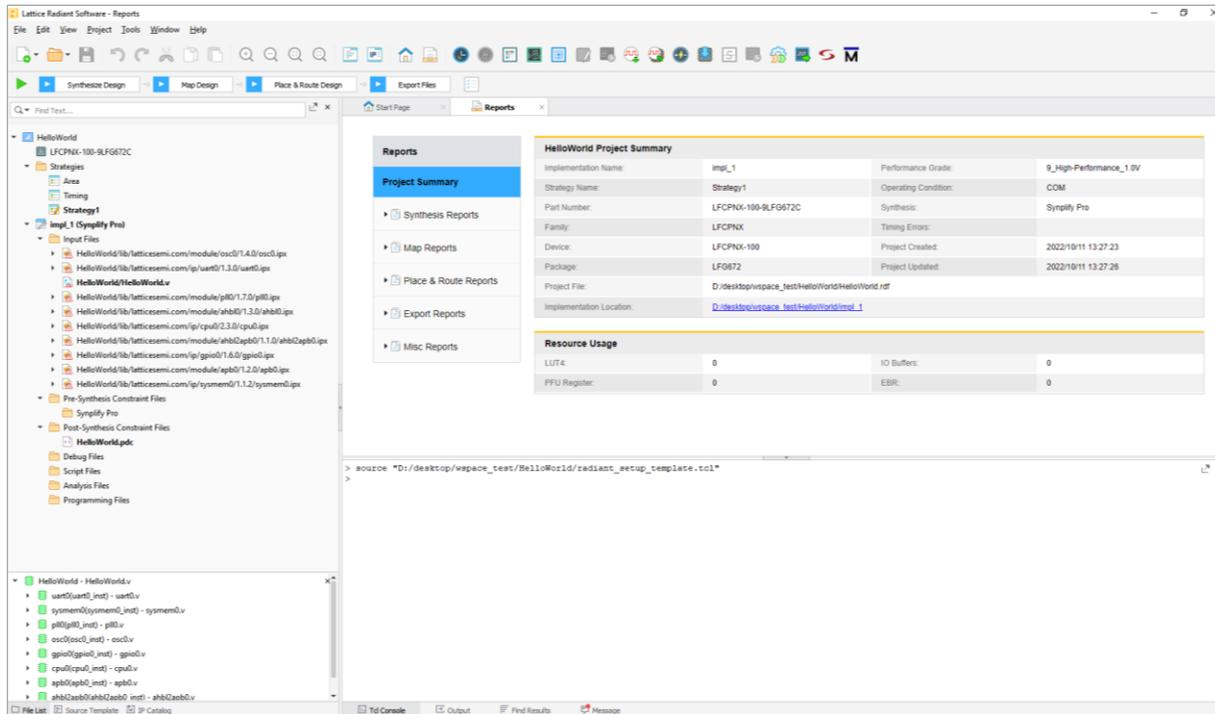

Figure 2.87. Radiant Project
2. Lattice Radiant is launched with a Radiant project generated for SoC at the background (Figure 2.87).